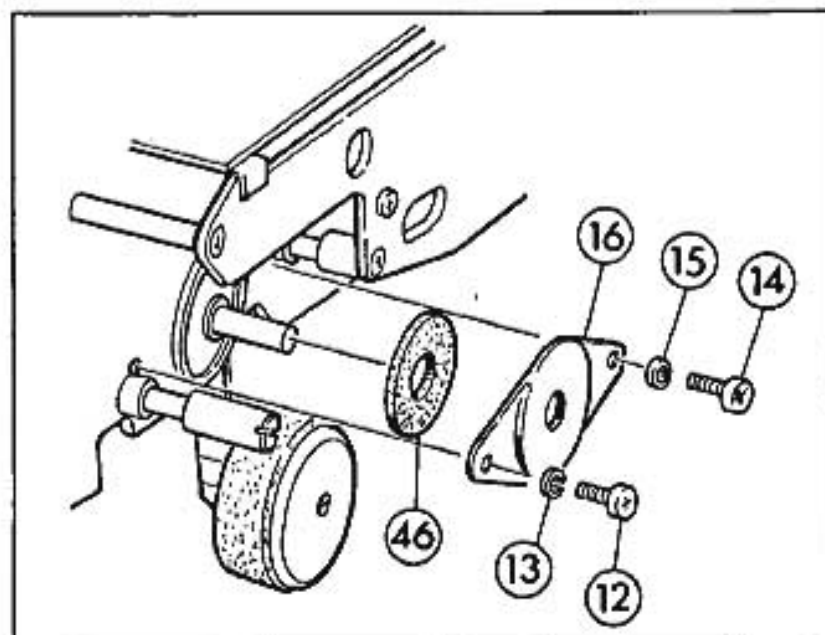
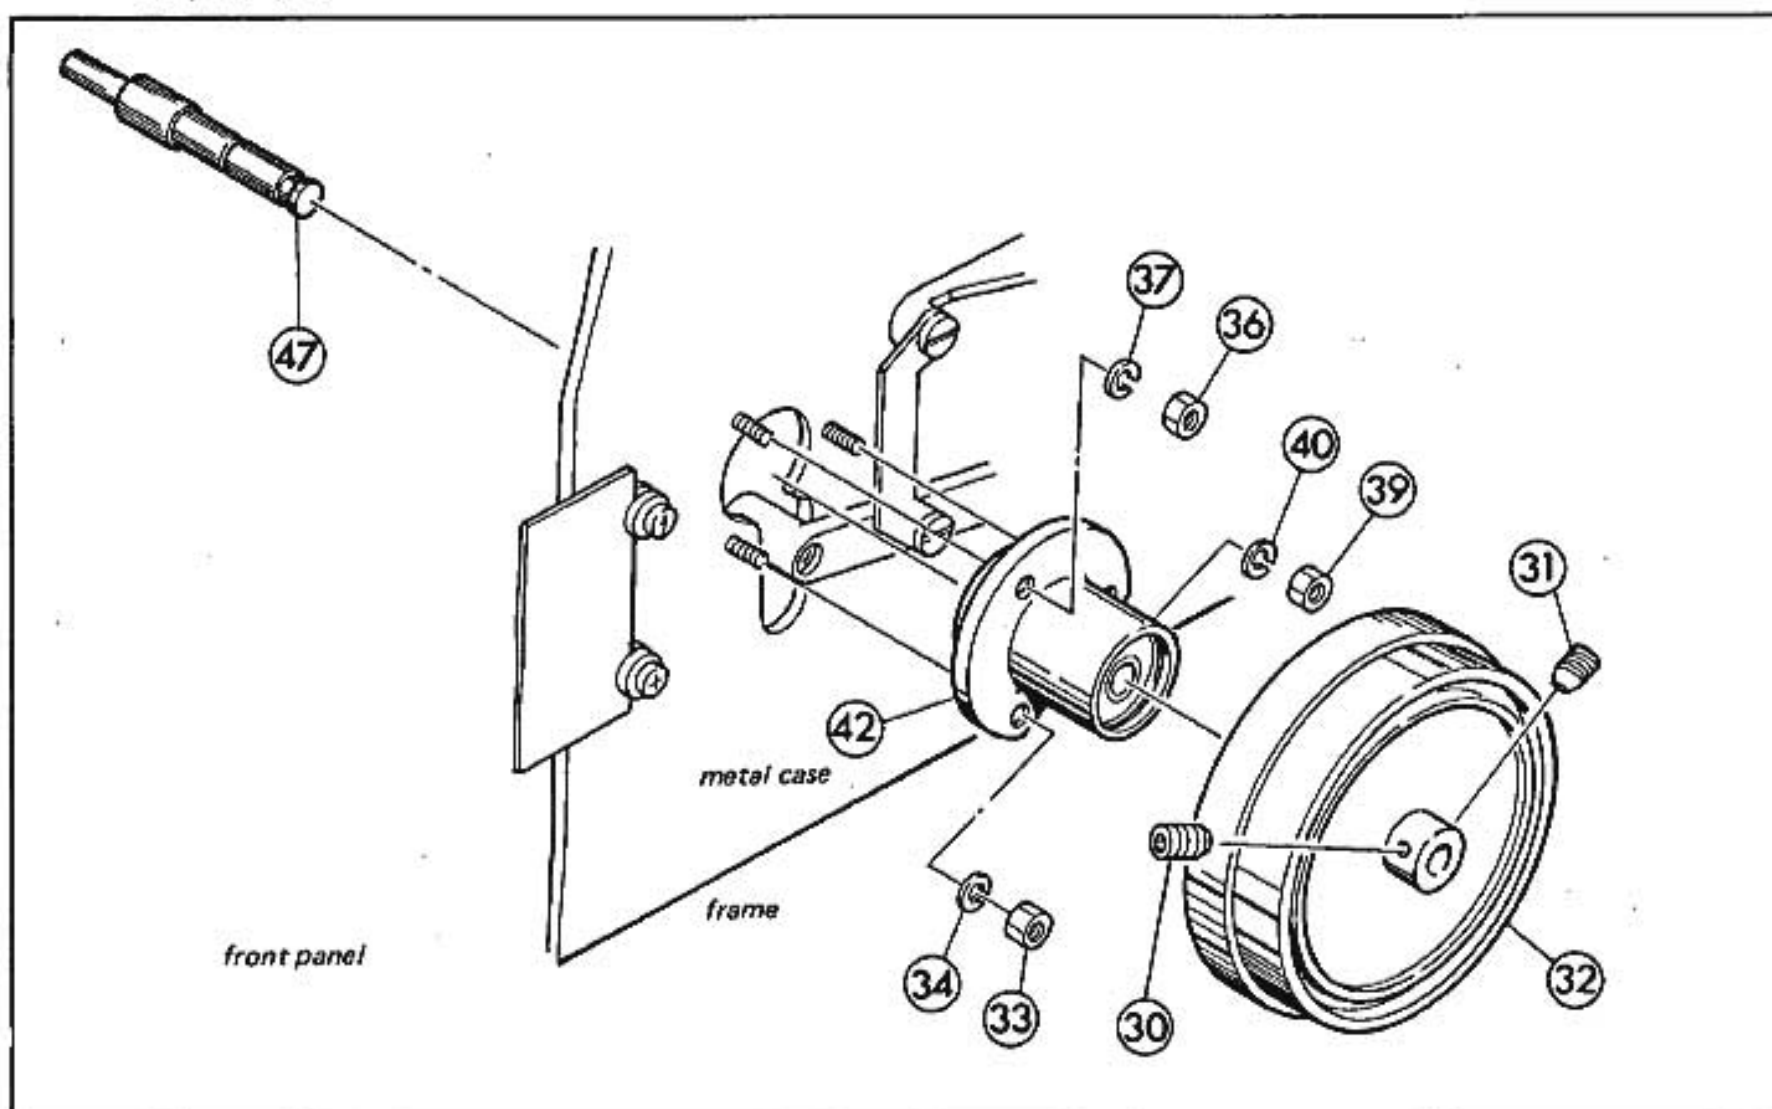

Fig. 10-7
Fig. 10-8
1. Disassembly (See Figs. 10-7, 10-8)
- 1) Remove the capstan metal cover ⑬ by removing the two B type screws ⑫, ⑭ and the two S type washers ⑬, ⑮. See Fig. 10-7.
- 2) Pull off the oil retaining ring ④ from the capstan shaft.
- 3) To remove the wheel ⑩, loosen off the two S type screws ③, ⑪ and push the capstan shaft ⑦ toward the front panel to come free of the wheel. See Fig. 10-8.
- 4) Remove the metal case ⑫ by removing the three nuts ③, ③, ③ and the three S type washers ④, ④, ④.
2. Assembly (See Figs. 10-7, 10-8)